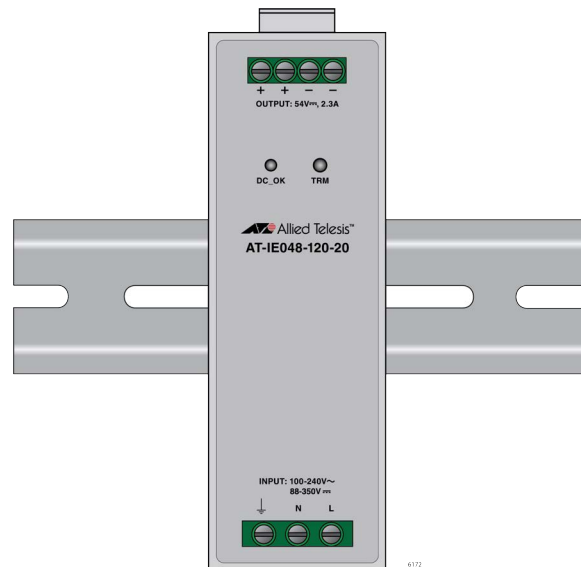

Figure 5. Vertical Installation
The power supply is cooled by convection airflow. The airflow direction is bottom to top. Install the power supply vertically to promote the best possible airflow and cooling. See Figure 5.
- ❑ To install the power supply on a concrete, metal, or other noncombustible wall, install a short length of DIN rail on the wall. Allied Telesis sells packets of five 35x7.5mm DIN rails for wall installations. See Figure 5 on page 32 and the Allied Telesis web site for details.